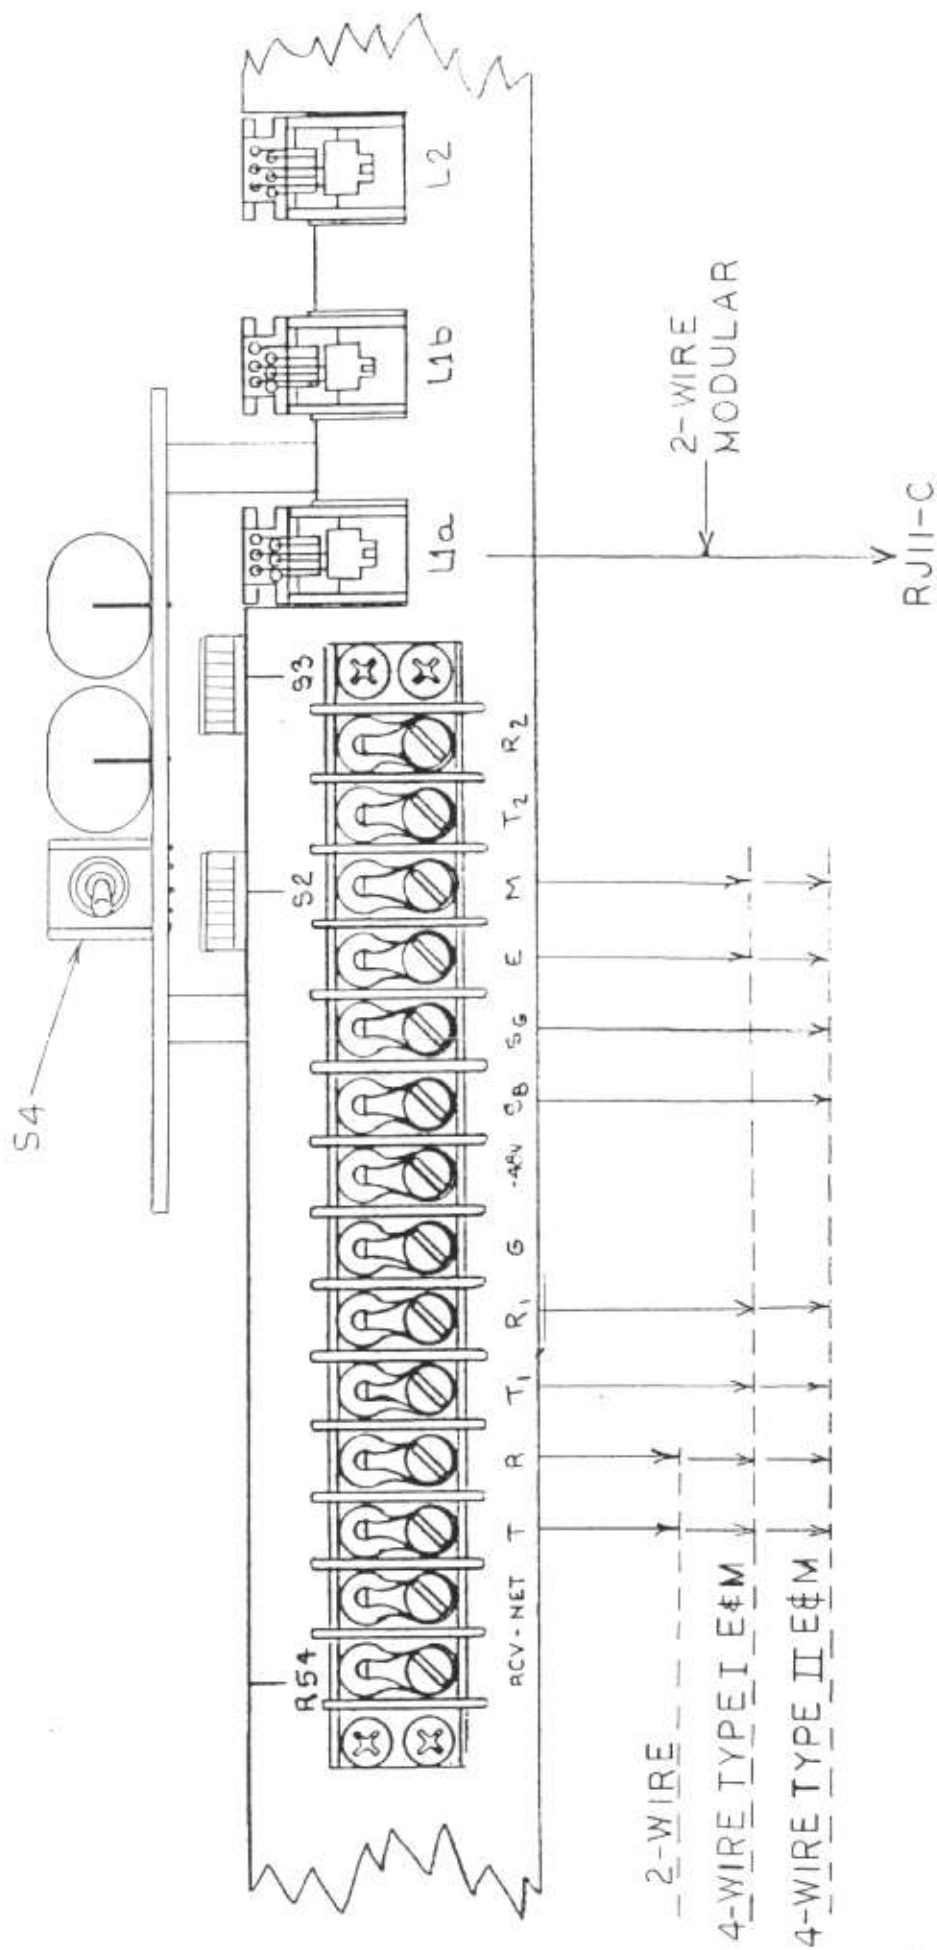

FIGURE 4-1
2. Locate Switch S4 (Figure 4-1) on top P.C. board labeled 600 ohm / 900 ohm near the rear of the unit. Select one of the impedance options applicable to the 2 wire station that the unit will be connected to. If you are unsure as to the setting of this switch, consult your PBS/Switch vendor for this information. (Typically set for 600 ohm).
3. Locate Switch S2 on the center P>C> board near the rear of the unit (Fig. 4-1). This is an eight position switch in which each position will be either Open (Switch = Up) or Closed (Switch = Down). Refer to Fig. 4-2 for Switch setting descriptions and make the appropriate selections.
4. Locate Switch S3 (Fig. 4-1) on the same P.C. board next to Switch S2. Refer to Fig. 4-3 for switch setting descriptions and make the appropriate selections.
9. There are two methods of connecting the 2-wire circuit to the unit (Refer to Fig. 4-1).
3. Locate Switch S2 on the center P>C> Board near the rear of the unit (Fig. 4-1). This is an eight position switch in which each position will be either Open (Switch = Up) or Closed (Switch = Down). Refer to Fig. 4-2 for switch setting descriptions and make the appropriate selections.